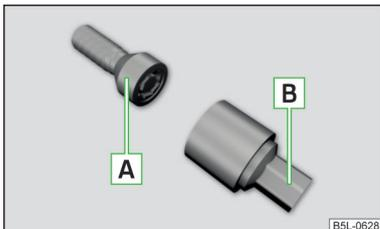

Fig. 177
The anti-theft wheel bolts protect the wheels from theft. These can only be loosened or tightened with the use of adapter **B** » Fig. 177.
- Insert adapter **B** » Fig. 177 with the toothed side all the way into the inner teeth in the head of the anti-theft wheel bolts **A**.